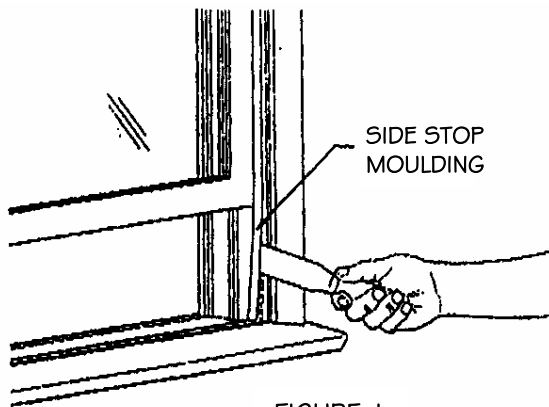

FIGURE 1
1. Remove interior, side stop moulding from window jambs using a putty knife. Do not damage this trim, as it will be reused. See Figure 1.